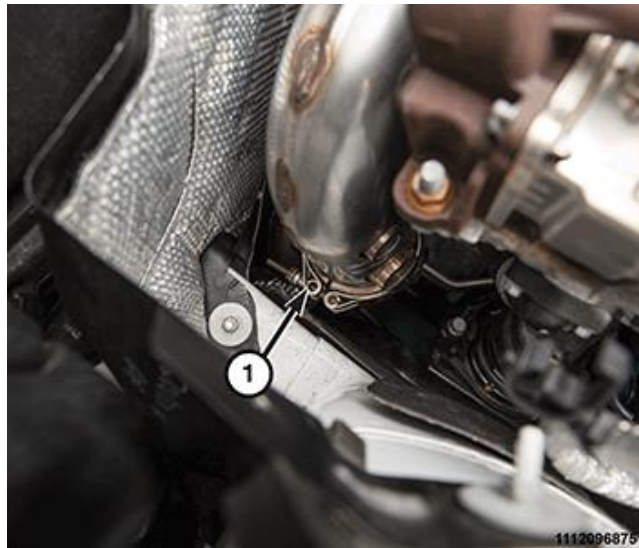

Figure 45 – V-band Clamp Nut
91. Loosen the V-band clamp nut (1) and remove the DPF from the turbo (Figure 45).
18. Install the Diesel Particulate Filter (DPF) to the turbo and tighten the V-band clamp nut (1) to 10 N·m (89 in. lbs.) (Figure 45). Tap the perimeter of the clamp to seat it, then re-torque to 10 N·m (89 in. lbs.). Repeat until the clamp is seated and holds the torque after taping on it.